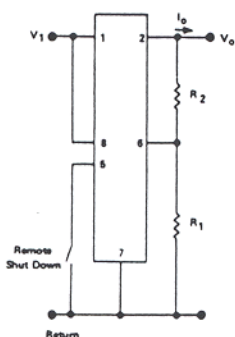

FIGURE 2
Hook up per Fig. 2 and 3, but V_1 and V_0 are negative voltage
- Reference diode is $6.2 \pm .3$ volts, and the V_{BE} of the feedback transistor is $0.6 \pm .1$ volt, giving $V_{6-7} = 6.4$ to 7.2 volts, temperature compensated. External divider R_1 and R_2 in Figs. 2, 3 and 13 determines the output voltage V_O .